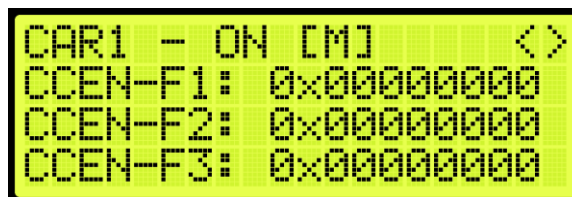

Figure 377: Front Car Call Enable Bitmap Status
15. From the Front Car Call Enable Bitmap Status (See Figure 377), press the right button.